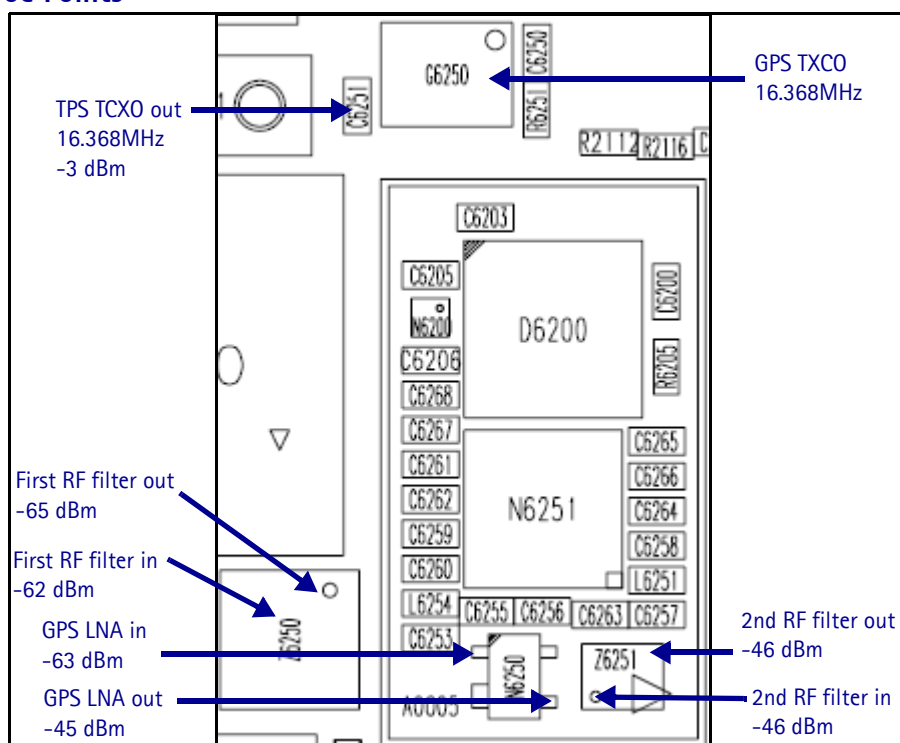

Figure 54: GPS RF Probe points
4. Measure the test points with an AAS-10B probe and spectrum analyzer set at center frequency 1575.25MHz (span = 500kHz), or with a voltmeter as required. (See Figure 54.)